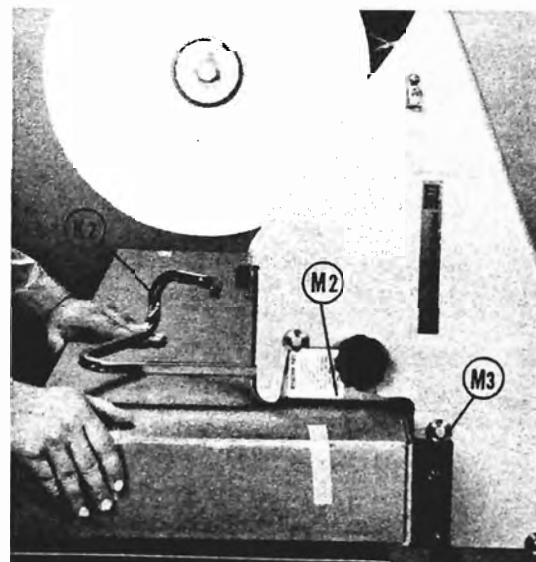

FIGURE 8 - TOP TAPING POSITION
- B. For top taping - The ski hold down loop is not used. Install the ski (K) through the ski clamp with the hold down loop (K2) turned clockwise 90° as shown in Figure 8. If ski is not installed, secure clamp knob (K1) before operating S-647.
Top Taping - Refer to Figure 8.